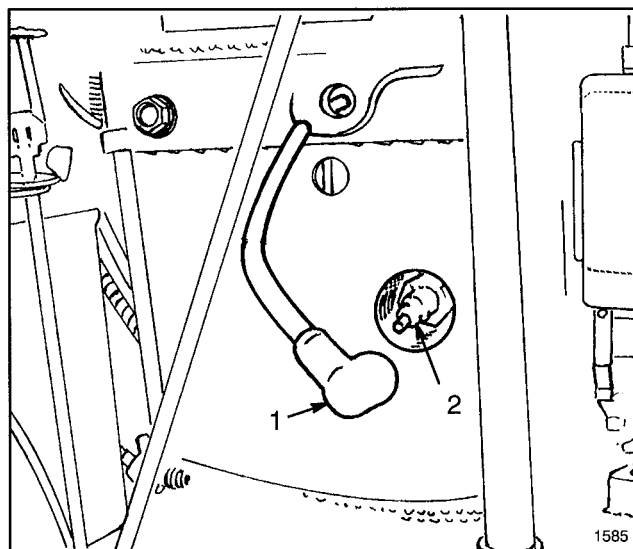

Figure 9
<p>To prevent accidental starting of the engine while performing maintenance, shut engine off, remove key from ignition switch and pull wire off spark plug (Fig. 9). Make sure wire does not contact plug accidentally.</p>
2. Stop engine and pull wire off spark plug (Fig. 9).